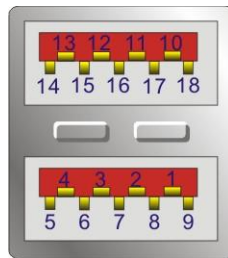

Figure 3-32: External USB 3.2 Gen 2 Connectors Location
- CN Location:** See **Figure 3-32**